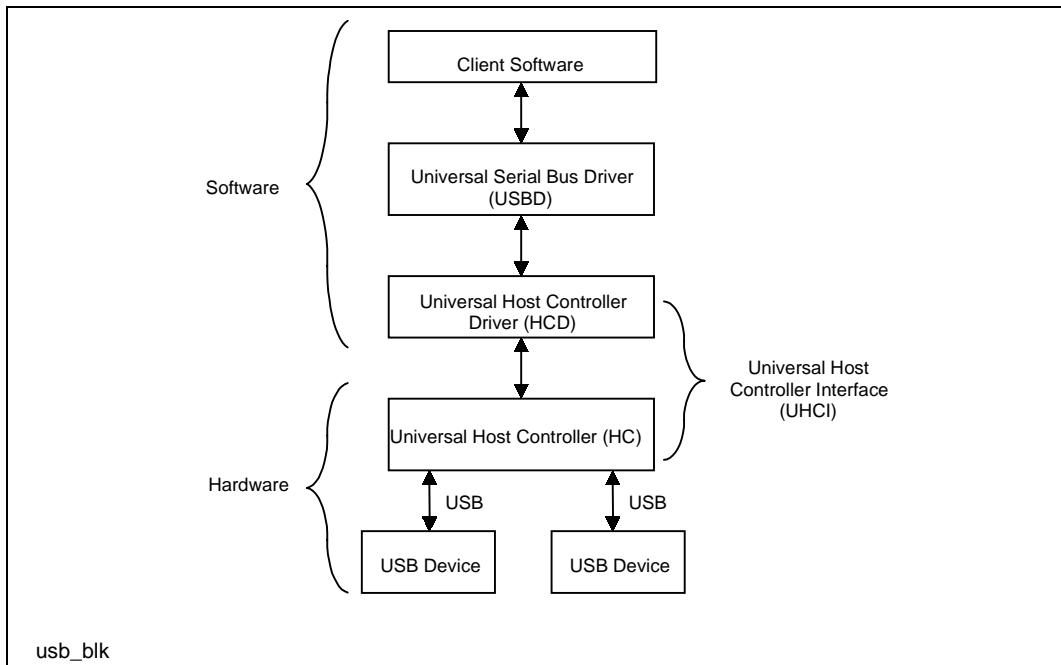

Figure 21. USB System Conceptual View
The 440MX contains a USB Host Controller (HC), which includes a root hub with two USB ports. This permits connection of two USB peripheral devices directly to the 440MX without an external hub. If more devices are required, an external hub can be connected to either of the built-in ports. The USB's PCI Configuration Registers are located in Function 2, PCI configuration space. The Host Controller completely supports the standard Universal Host Controller Interface (UHCI) and thus, takes advantage of the standard software drivers written to be compatible with UHCI. Figure 21 shows a conceptual view of a USB system. UHCI consists of two parts—Host Controller Driver (HCD) and Host Controller (HC). The Host Controller interfaces to the USB system software in the host via the HCD. The HCD software manages the Host Controller operation and is responsible for scheduling the traffic on USB by posting and maintaining transactions in system memory. HCD is part of the system software and is typically provided by the operating system vendor. HCD provides the software layer between the Host Controller and the USB software layer (also located in the operating system). The UHCI's HCD software interprets requests from the USB software and builds Frame List, Transfer Descriptor, Queue Head, and data buffer data structures for the Host Controller. The data structures are built in system memory and contain all necessary information to provide end-to-end communication between client software in the host and devices on the USB.